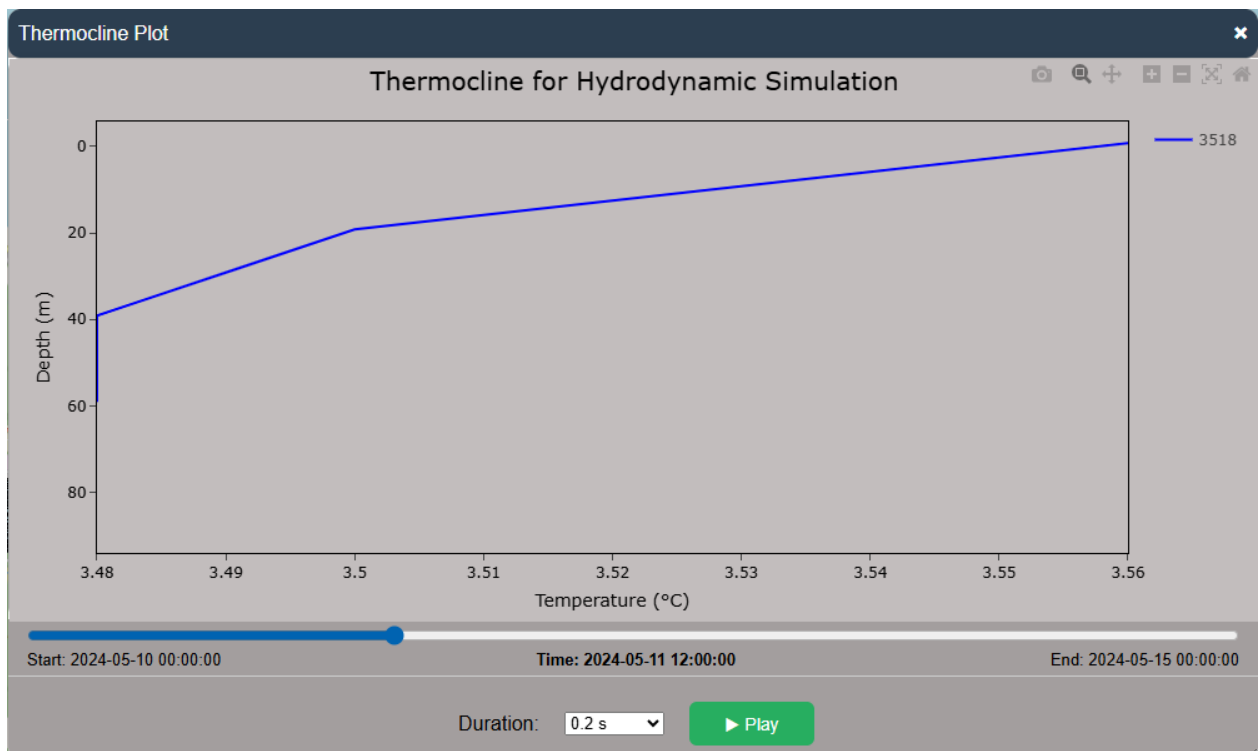
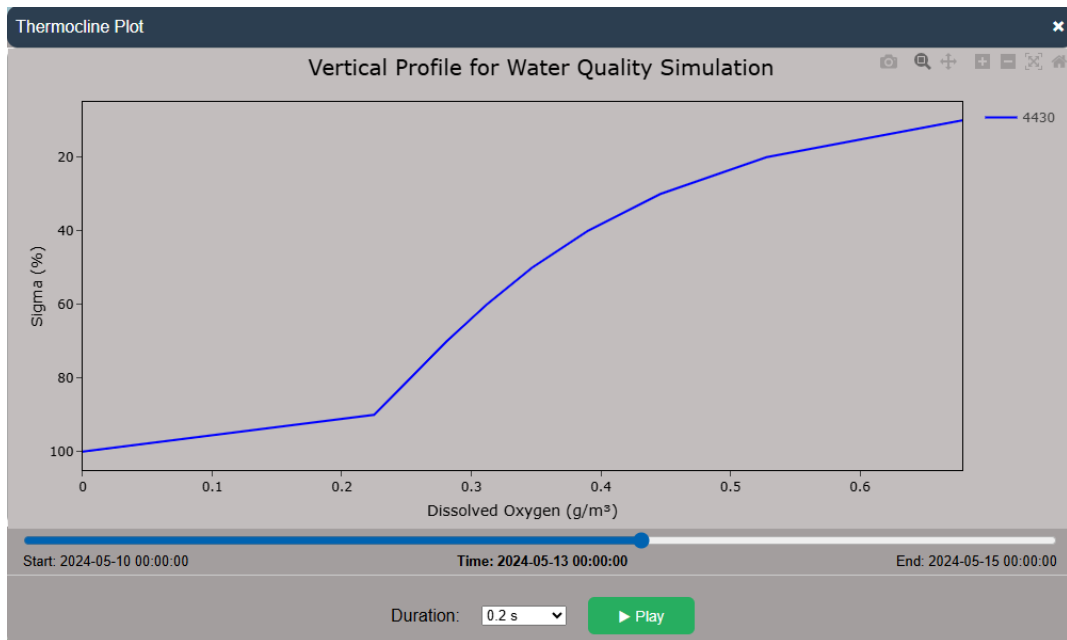

Figure 5.8a. Thermocline chart for HYD simulation
Figure 5.8b. Thermocline chart for WAQ simulation
- A window containing a dynamic chart for HYD (Figure 5.8a) or WAQ (Figure 5.8b) simulation appears and user can hit button “*Play*” to see animation.